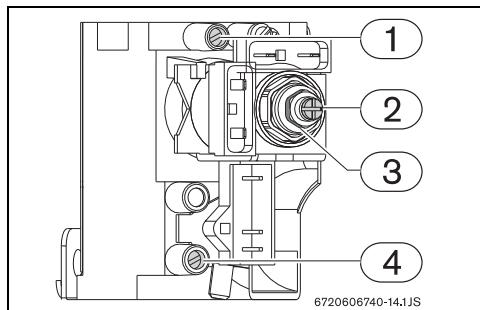

Fig. 19 Pressure measuring points
- ▶ Using the adjustor (Fig. 19, [3]) regulate the pressure to achieve the values indicated in table 14.
- ▶ Using the adjuster screw (Fig. 19, [2]) regulate the pressure to the values indicated in table 14.